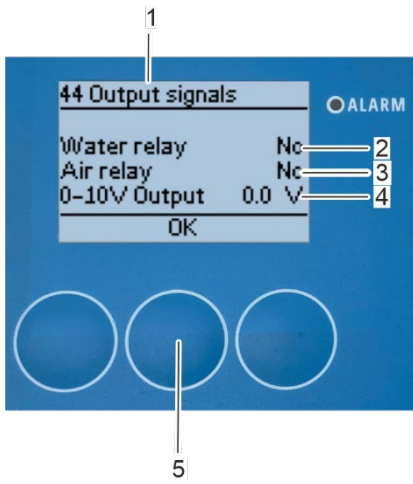
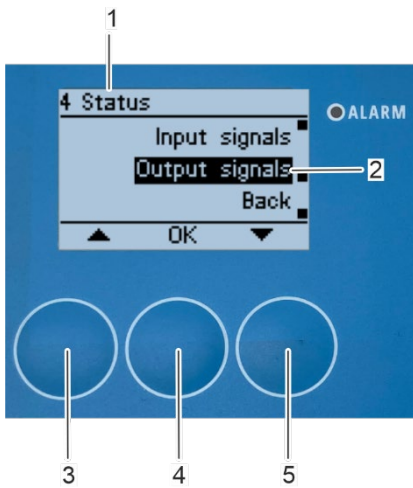

Fig. 180: Submenu „44 Output signals“
Fig. 181: Submenu "4 Status"
⇒ The "44 Output signals" submenu appears on the display (Fig. 180/1) showing the actual status of the "Water relay" (Fig. 180/2), the "Air relay" (Fig. 180/3) and the "0-10 V Output" (Fig. 180/4).
The output signals "Water relay" (Fig. 180/2) and "Air relay" (Fig. 180/3) show "Yes" if there is an input signal. The "0-10V Output" (Fig. 180/4) shows the currently applied voltage in a range from 0 to 10 V.
3. Press [OK] (Fig. 180/5) to return to the submenu "4 Status" (Fig. 181/1).
⇒ The "4 Status" submenu appears on the display (Fig. 181/1).